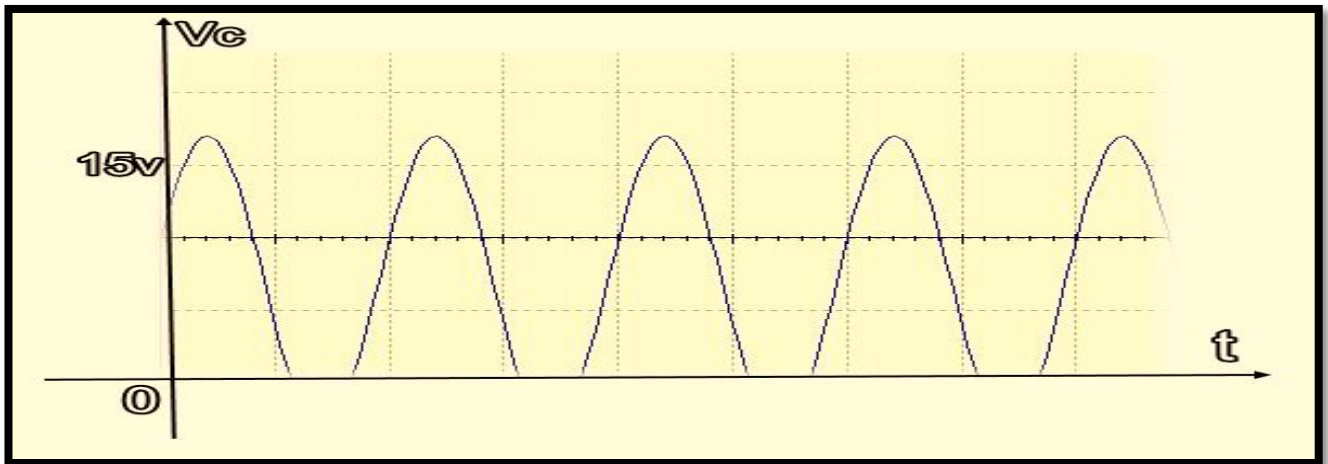

Fig.4A - DC Bias point too near to saturation
- Adjust the input amplitude to make the output signal appear as in Fig.4A or 4B, i.e. a sinewave dipped on top (cut-off) or bottom (saturation).